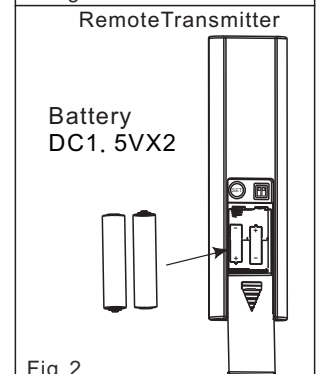

Fig 2
1. Use 2 1.5V/AAA battery to replace battery. (Fig. 2)